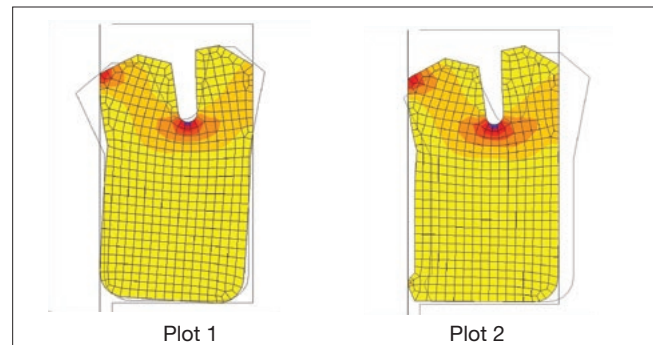

Figure 2-8. Design improvements for increased stability
- Design features of a seal (i.e. stabilizing lip, non-symmetrical design). Figure 2-8 illustrates how design features can make a seal more stable. In the first FEA plot, the seal is centered in the gland and does not incorporate a stabilizing lip. In the second plot, the seal is loaded against the static gland and includes a stabilizing lip. Stability has been enhanced by the design changes.